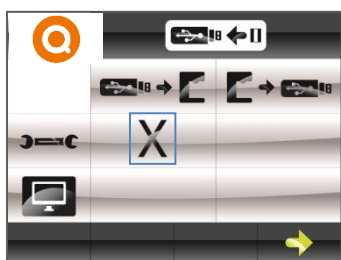

Figure 5.
4. Otherwise, the selected operation will appear with an "X" to indicate that the operation has failed, Fig. 5.